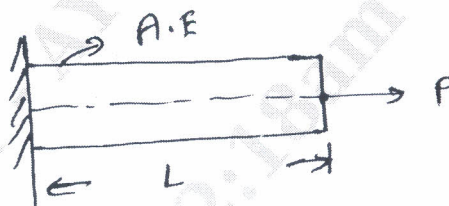

Fig Q2(b)
- b. By Raleigh-Ritz method for a bar of cross sectional area A elastic modulus E, subjected to uniaxial loading P, show that at a distance x from fixed end is  $u = \left(\frac{P}{AE}\right)x$  and hence determine the end deflection and the stress to which the bar is subjected to shown in Fig Q2(b).